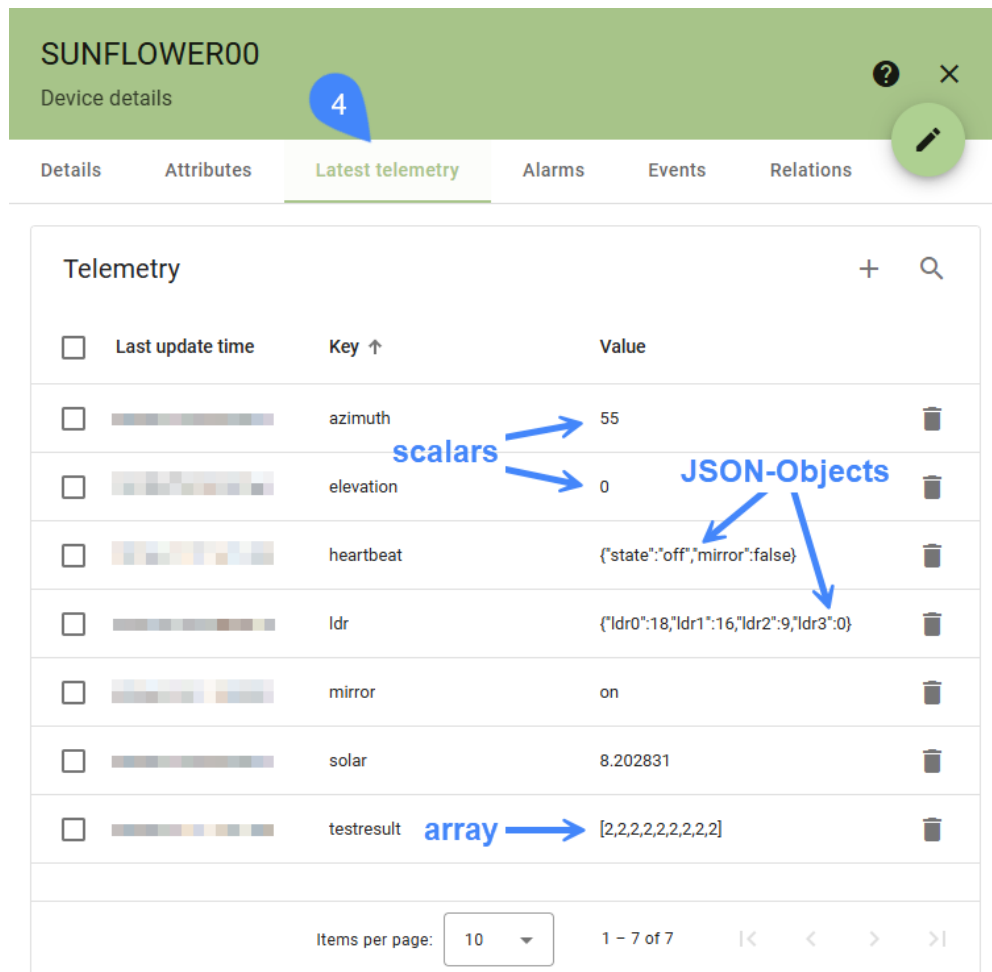

Figure 3: Overview of available telemetry for a device
4. After selecting the device, a window pops up. In that window, select the **Last Telemetry** tab (see Figure 3).
This gives you an overview of available telemetry as shown in Figure 3. The telemetry is arranged in so called key-value pairs¹. The values for the telemetry can be of various structures: